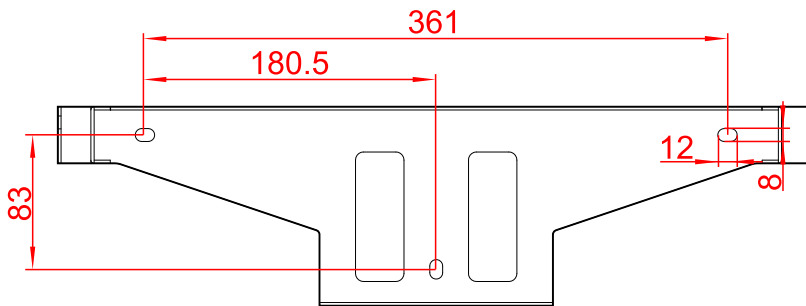
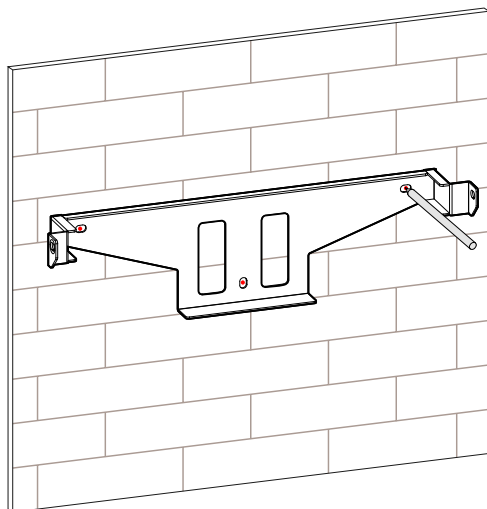

Figure3-7 Installation size (unit: mm)
Figure3-8 Mark the drilling position
Step 2 Mark the position of installation holes on the wall according to the dimensions of the fixing holes of the installation holder (as shown in Figure3-7), and drill three holes of  $\Phi 10.5\text{mm}$  on the wall according to marked position, as shown in Figure3-8.